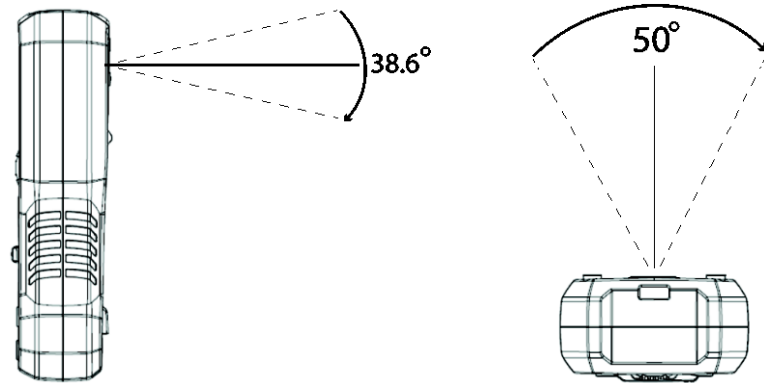

Fig. 8-3 (a) Field of View – side view **Fig. 8-3 (b)** Field of View - top view
7. The thermal imager's resolution is 120 x 160 pixels and its FOV (Field of View) is 50 degrees (top view) by 38.6 degrees (side view) see **Fig. 8-3 (a) and (b)**.